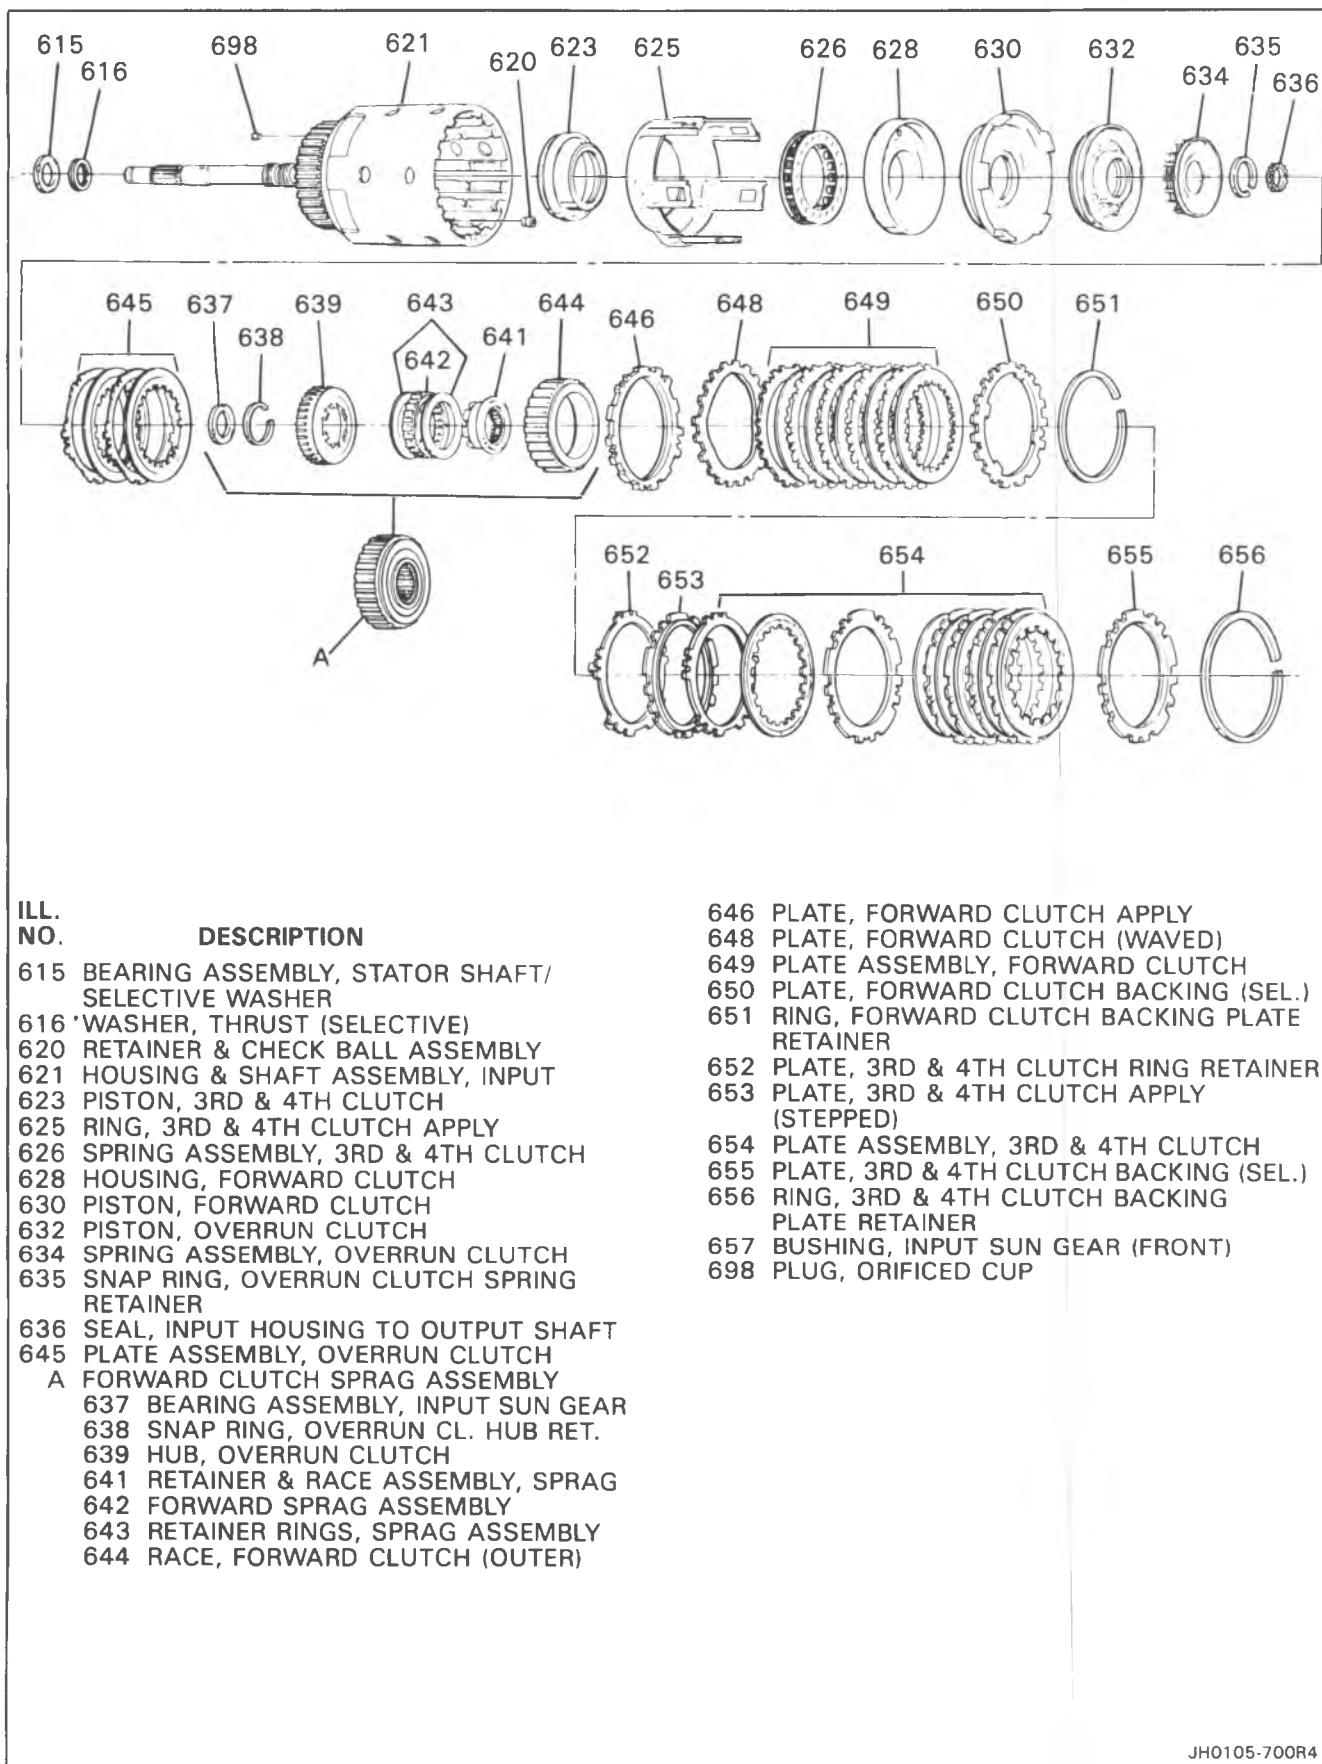
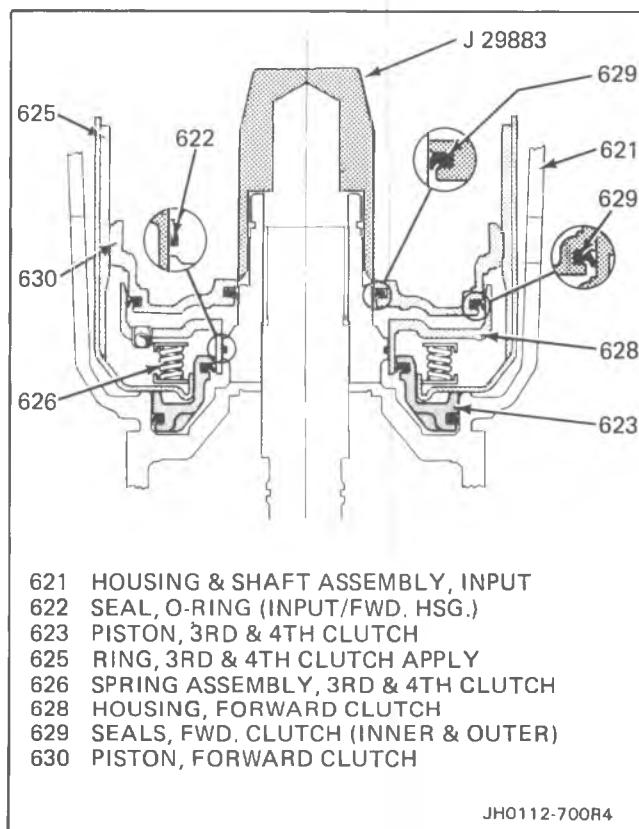

Figure 123 Input Clutch Assembly
Figure 129 Forward Clutch and 3-4 Apply Ring - Installed
❖ Disassemble (Figures 123 and 124)
Inspect (Figure 123)
**Inspect (Figures 123, 129, 131)**
- Forward clutch housing (628) for
- Forward clutch piston (630) and overrun clutch piston (632) for
- Overrun spring assembly (634) for damage or distortion
- Input housing to output shaft lip seal (636) for damage or wear
**Assemble (Figures 129 and 130)****TOOLS REQUIRED:**